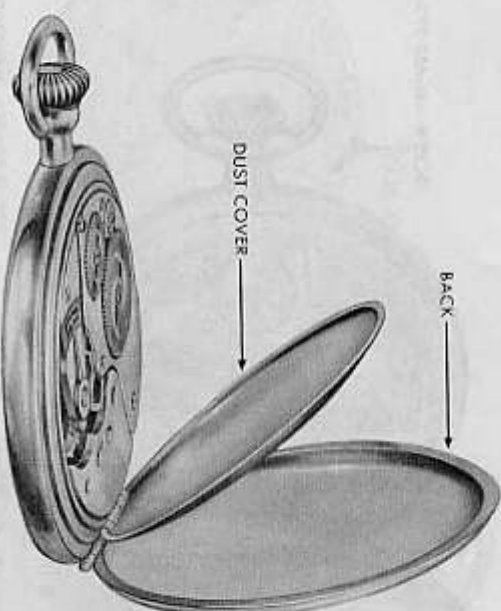

Figure 76 — Elgin Pocket Watch — Case Back Opened
q. Close Case Backs (fig. 76). Close both back covers by pressing until they snap shut.